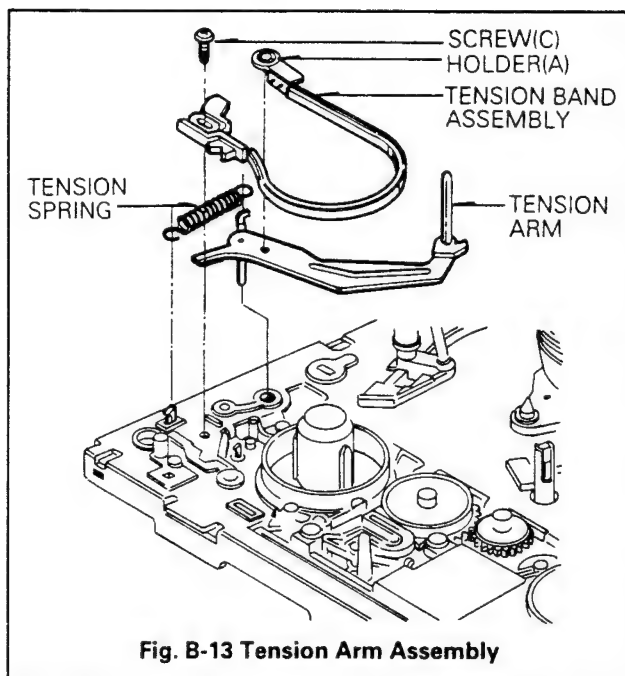

Fig. B-13 Tension Arm Assembly
13. Tension Arm Assembly(Fig. B-13)